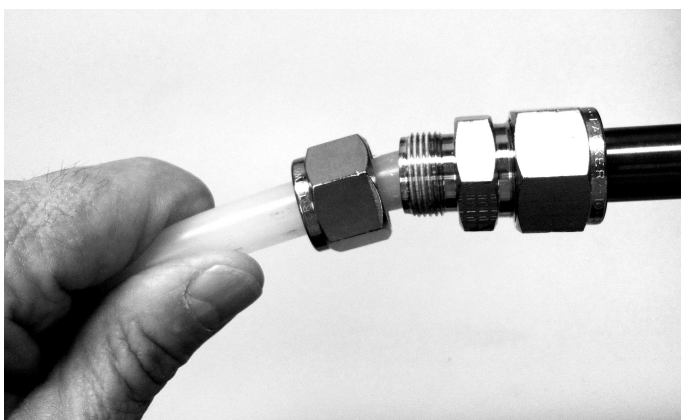

Figure 1 Probe Connection
1. Remove the probe from the packaging. Connect the probe to the hose fitting and tighten firmly to ensure it is leak tight (Figure 1). Tighten the hose coupling nut finger-tight, then using two wrenches, tighten the coupling nut 1-1/4 additional turns.